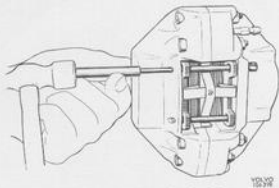

Fig. 5-14. Removing guide pin, ATE
- 3b. Concerns ATE: Tap out the upper guide pin with a drift with diameter 2.5 mm (9/64"), see Fig. 5-14. Take out the tensioning spring. Tap out the lower guide pin.